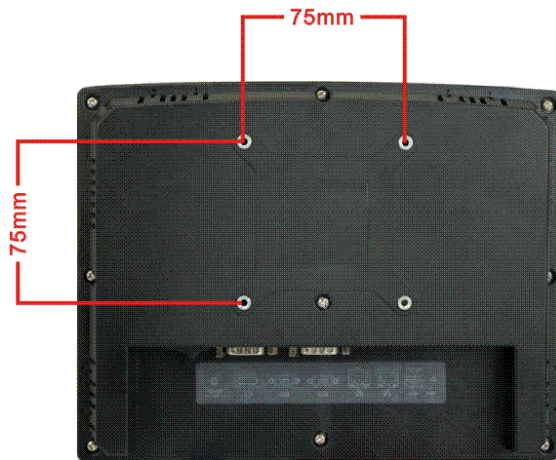
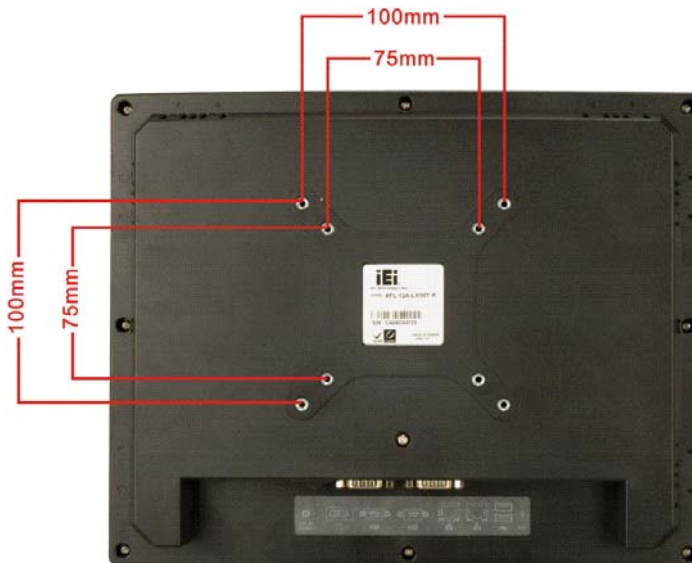

Figure 3-18: AFL-07A-LX/AFL-08AH-LX Arm Mounting Retention Screw Holes
Figure 3-19: AFL-10A-LX/AFL-12A-LX Arm Mounting Retention Screw Holes
Step 3: Align the retention screw holes on the mounting arm interface with those in the flat panel PC. The AFL-07A-LX/ AFL-07A-LX arm mount retention screw holes are shown in **Figure 3-18** and the AFL-10A-LX/AFL-12A-LX are shown in **Figure 3-19**.